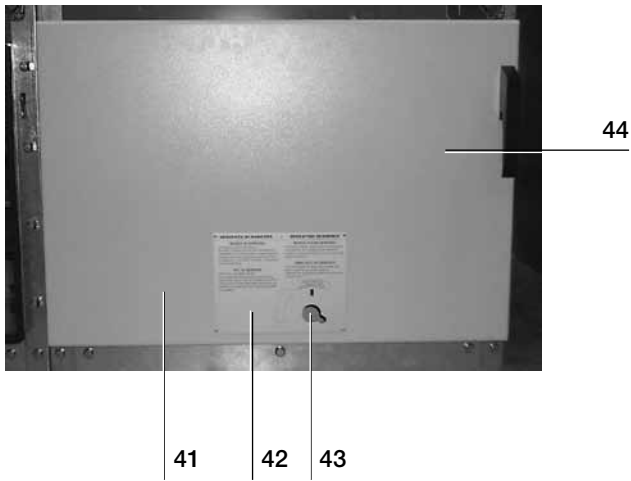

Fig. 11a
- door (41) (fig. 11a);
- operation sequence plate (42) (fig. 11a);
- operating seat of lever for VT truck racking in/out (43) (fig. 11a);